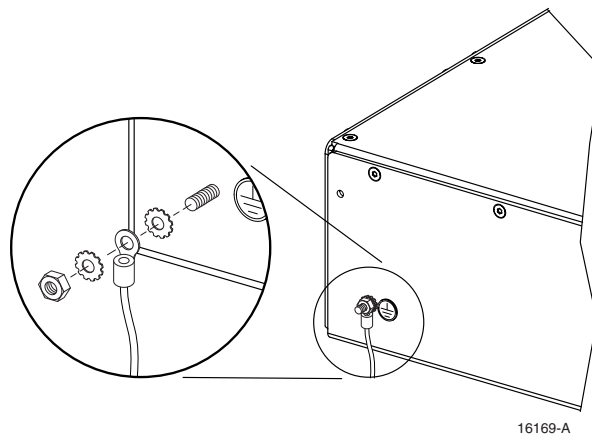

Figure 3-7. Chassis Ground Stud
3. Locate the chassis ground stud at the rear of the HU as shown in Figure 3-7.
4. Attach the ring end of the wire to the chassis ground stud (see Figure 3-7).